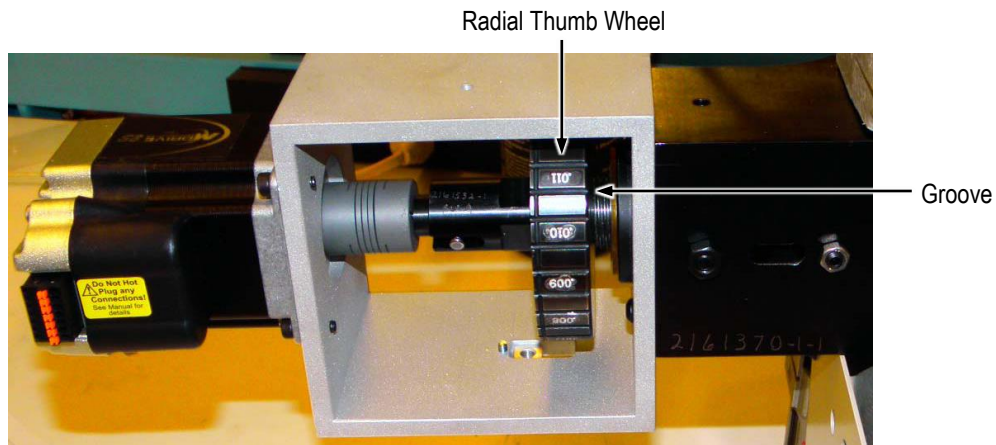

Figure 17
- Aligning the vertical line of the indicator plate with the radial thumb wheel groove and the horizontal line of the indicator plate with the axial thumb wheel zero groove will produce a maximum crimp height for all products. See Figure 17.